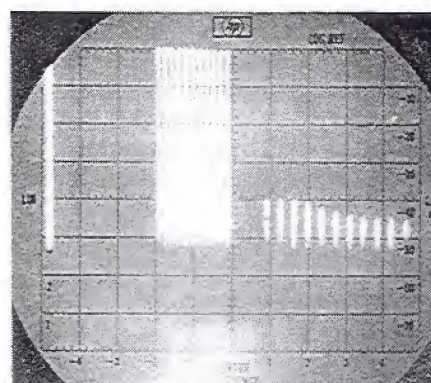

Figure 4-8. Typical Harmonic Distortion
10. Figure 4-8 illustrates a typical display of the LO feedthru, fundamental and second harmonic signals.